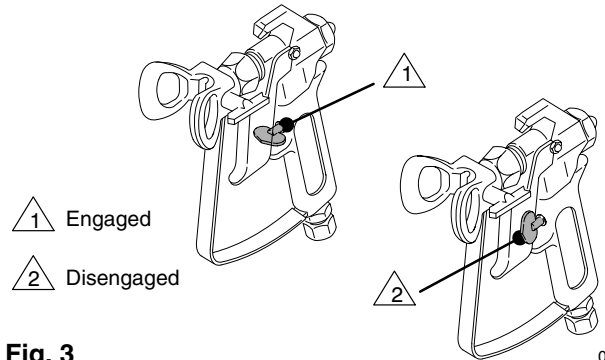
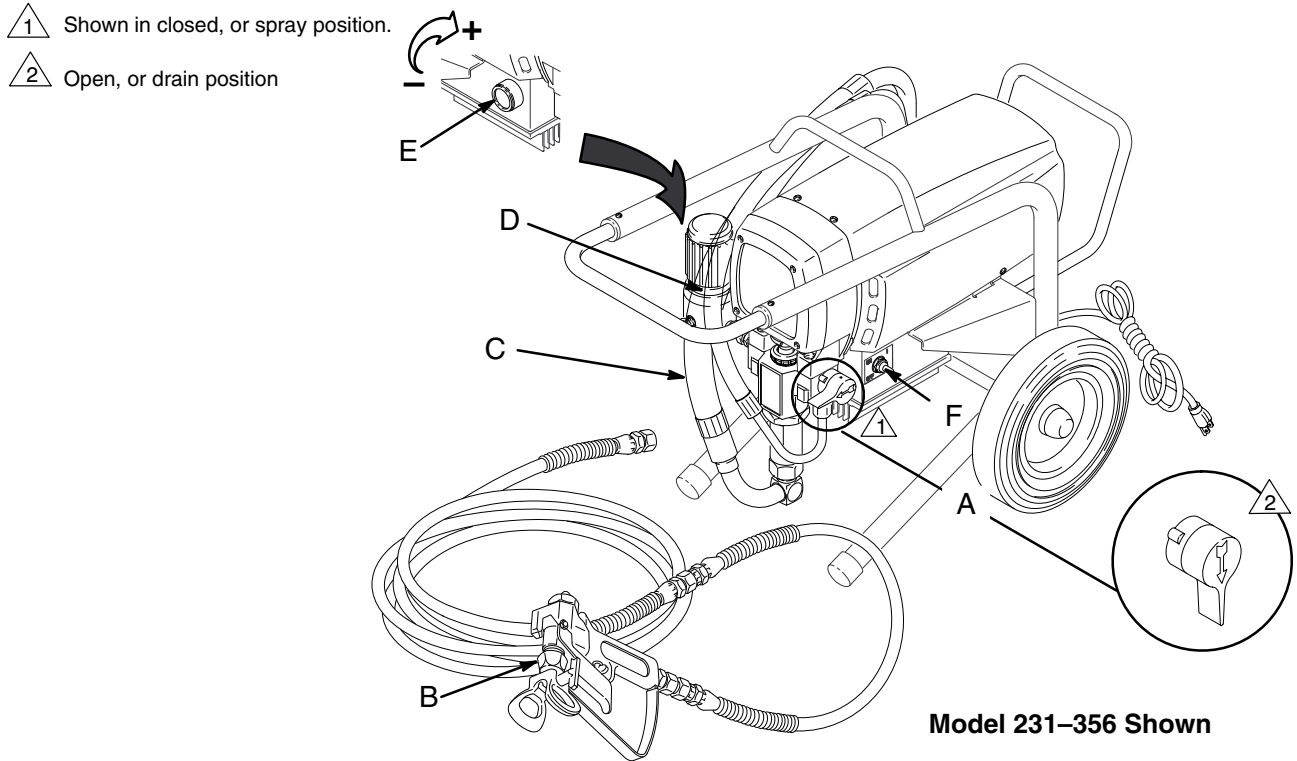

Fig. 3
Fig. 7
When engaged, the gun safety latch prevents the gun from accidental triggering. See Fig. 3.
1. **Open the pressure drain valve (A).** See Fig. 7.
3. **Put the suction hose or tube (C) into the paint.** If you are pumping from a 1 gallon (5 liter) pail, push the drain hose (D) down below the top of the pail to avoid splashing paint when the drain valve is opened.
4. **Turn the pressure knob (E) to the minimum setting.**
5. **Disengage the gun safety latch.** See Fig. 3, page 7.